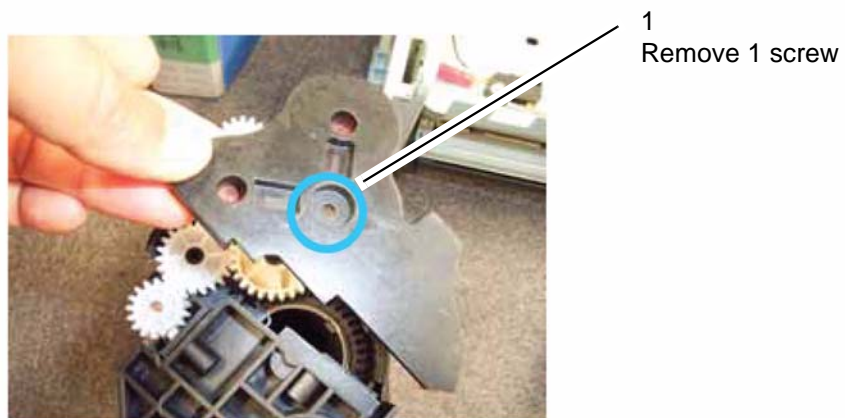

Figure 1
1. Remove the end plate, Figure 1.